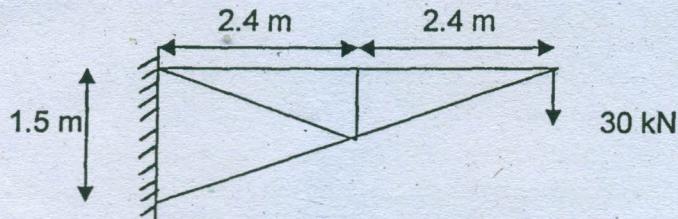

Fig.Q.11(b)
- (b) Determine the vertical deflection at the free end of the cantilever truss shown in Fig.Q.11(b). Take cross sectional area of compression members as 850 mm2 and tension members as 1000 mm2. Modulus of elasticity,  $E = 210$  GPa for all the members.